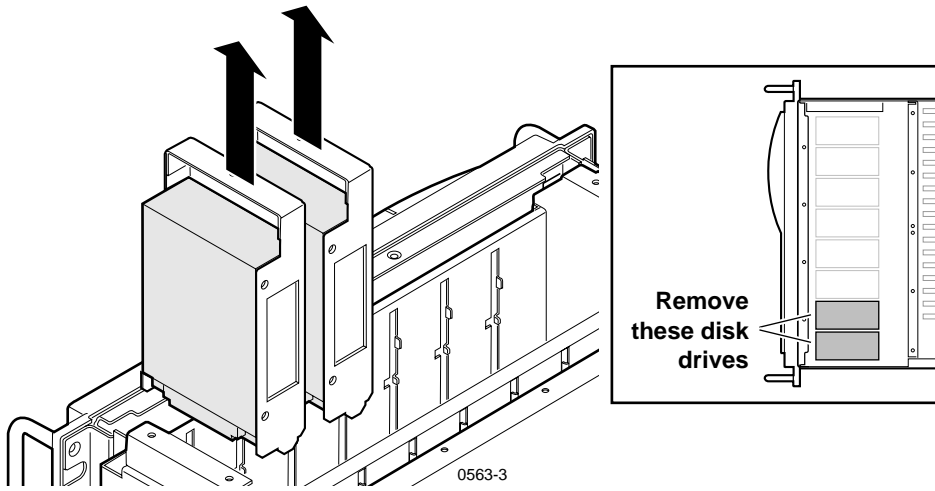

Figure 6. Removing Disk Drive Caddy
The right-hand disk drives (shown in Figure 6) must be removed from the drive tray to access the SCSI cable connectors on the SCSI backplane. In this procedure, you will remove as many drives as necessary to gain access to these connectors.
1. Pull up on the disk caddie, as shown in Figure 6, and lift it out of the chassis.
3. Remove as many disk drives as necessary (refer to Figure 6) to gain access to the SCSI connectors on the SCSI Backplane.